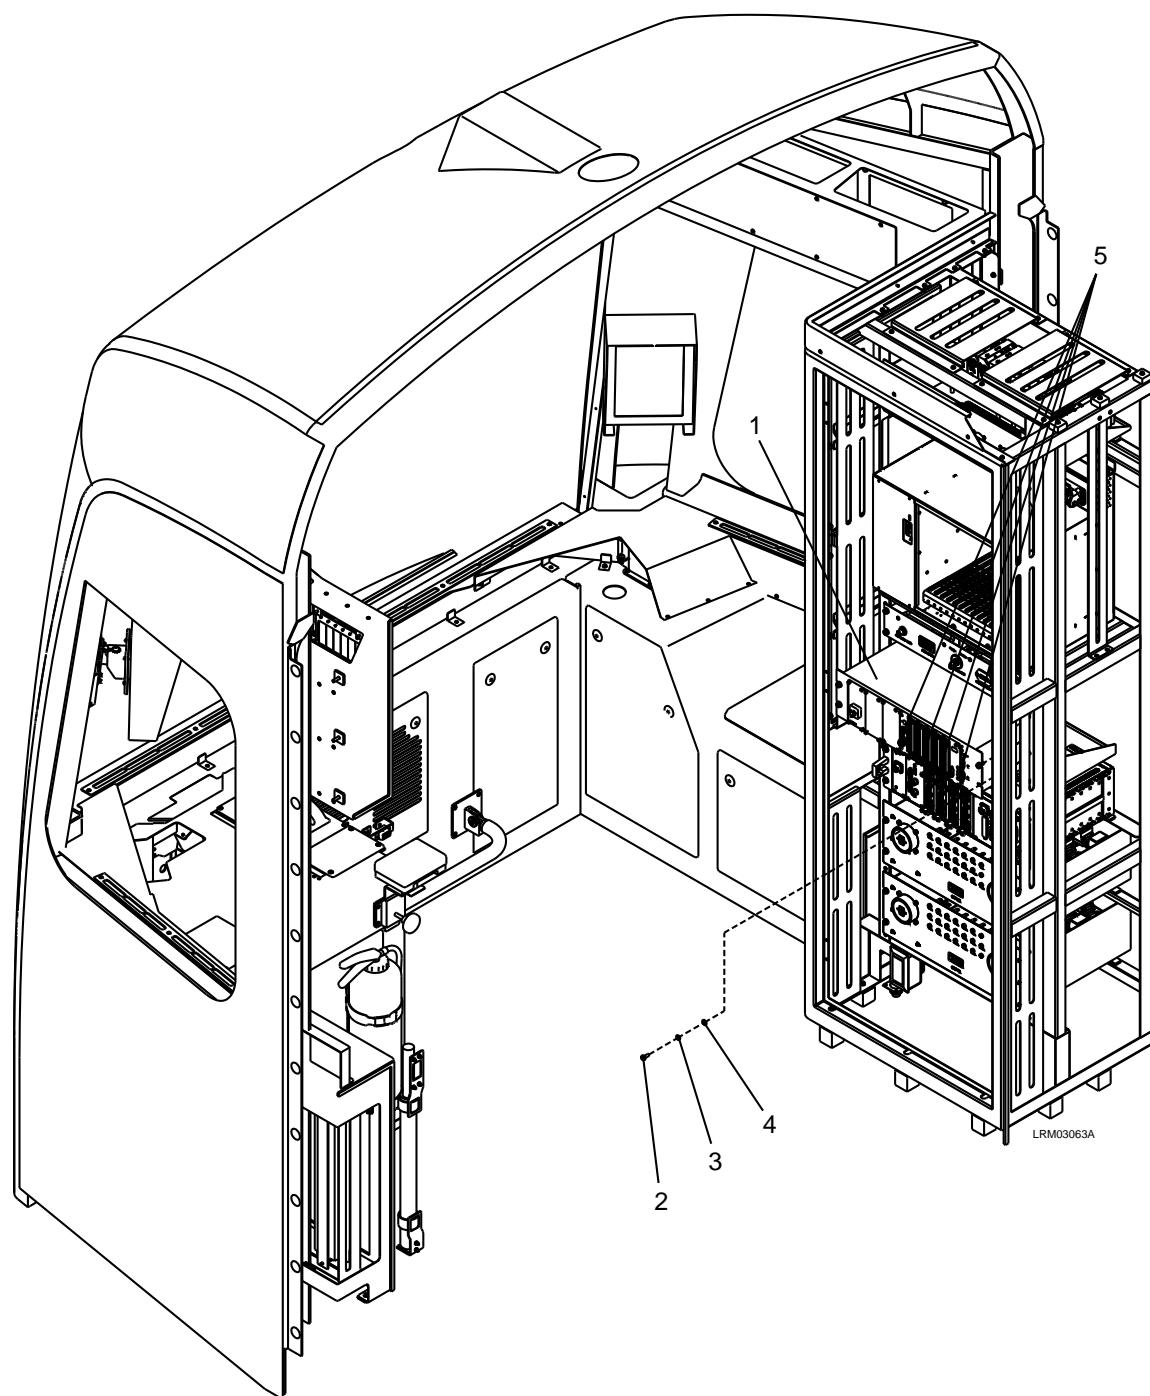

Figure 7-44: Electronic Control Unit (ECU), B-Unit
2. Disconnect the electrical connectors (5) to the ECU (1). See Figure 7-44.
3. Remove the four M6 x 16 screws (2), M6 lock washers (3), and M6 plain washers (4).
4. Carefully remove the ECU (1).